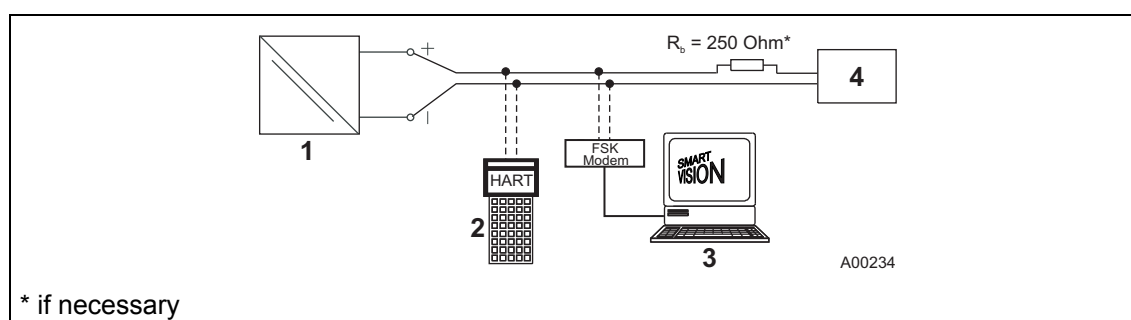

Fig. 16
4. Carry out installation as shown in Fig. 16.